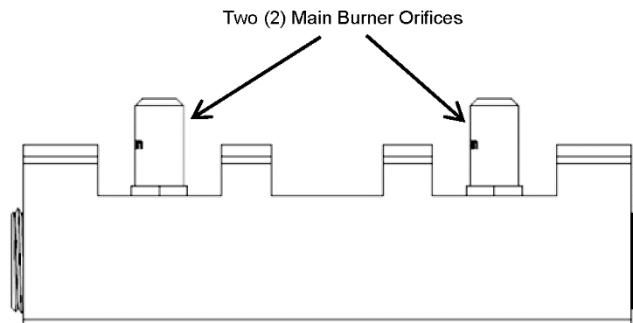

Figure 26. Burner Manifold
- Replace main orifices (Figure 26)
2. Replace the main orifices (Figure 26) on the manifold assemblies with the supplied LP orifices and replace the manifold assembly. Reconnect and secure the union. Check for leaks.